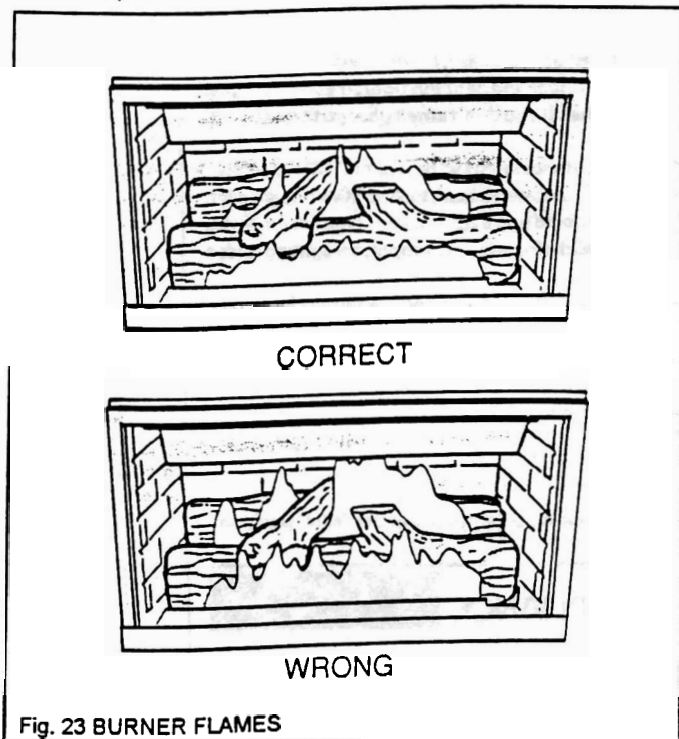

Fig. 23 BURNER FLAMES
17.1 A periodic visual check of the pilot and burner flames should be made (see figs 23 and 24).